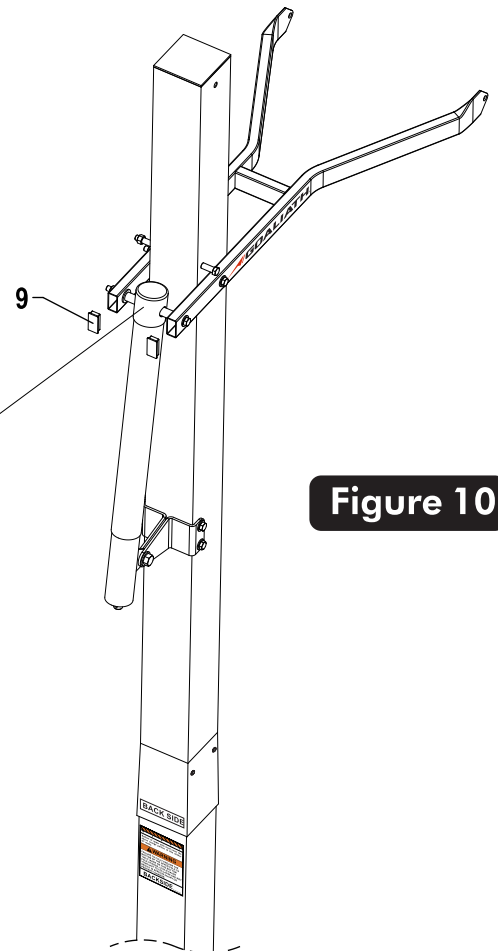

Figure 10
- Secure Actuator (#16) to Lower Arms (#11) using one bolt (#22), two flat washers (#18), two plastic washers (#5) and one lock nut (#4). See **Figure 10** and **Detail 3**. Tighten both bolts (#22) snug but, **do not over tighten. Board Arms must pivot freely.**
- Insert Two Tube Plugs (#9) into open ends of Lower Arms (#11). It may be necessary to use a rubber mallet to tap them in. See **Figure 10**. **Note:** Tube plugs may be pre-installed by the factory.